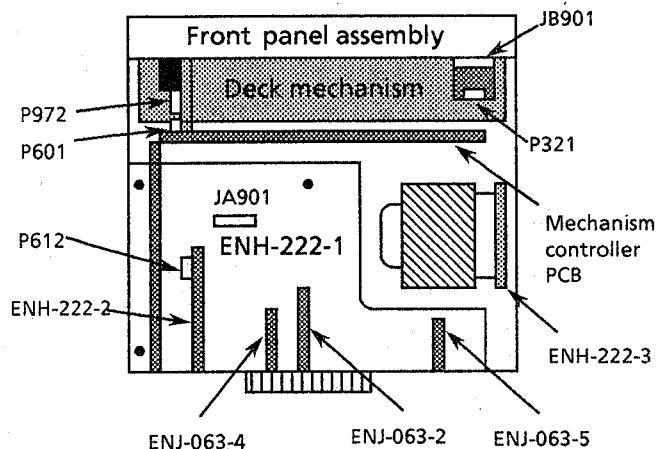
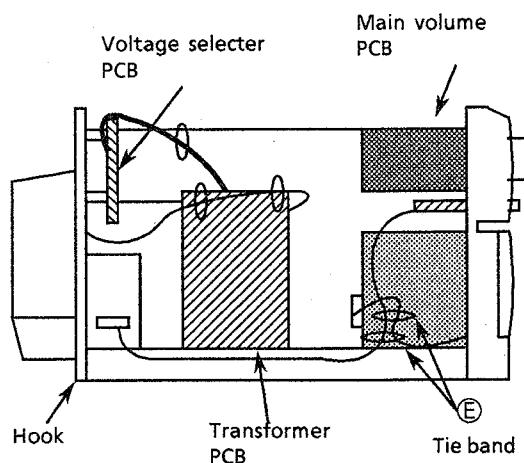

Fig. 2 Top view
Fig. 3 Left side view
2. Cut the tie bands ⑤ and ⑥ (Fig. 3,4).
3. Remove the screw ④.
5. Disconnect the connectors P331, P332, P333, P334 (Cassette deck CB), P321 (Head phone CB), P612 (Input selector CB) and the flat wire JB901 (System control CB) and P972 (Main volume CB) (Fig. 2, 3,4).
4. Release the both hooks to remove the rear panel (Fig. 3,4).